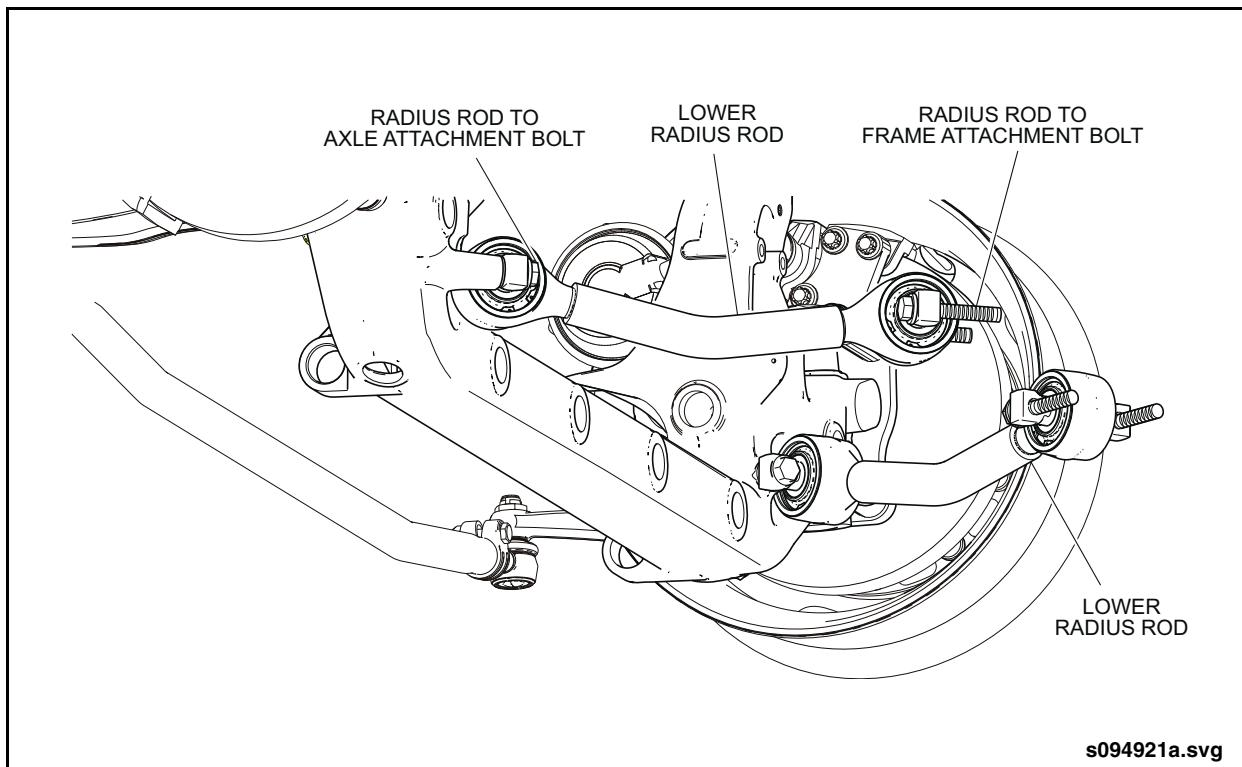

Fig. 1-2: Lower Radius Rod Removal
9. Remove two M18 bolts from each pivot pin retaining lower radius rods to vehicle frame. See "Fig. 1-2: Lower Radius Rod Removal" on page 4.